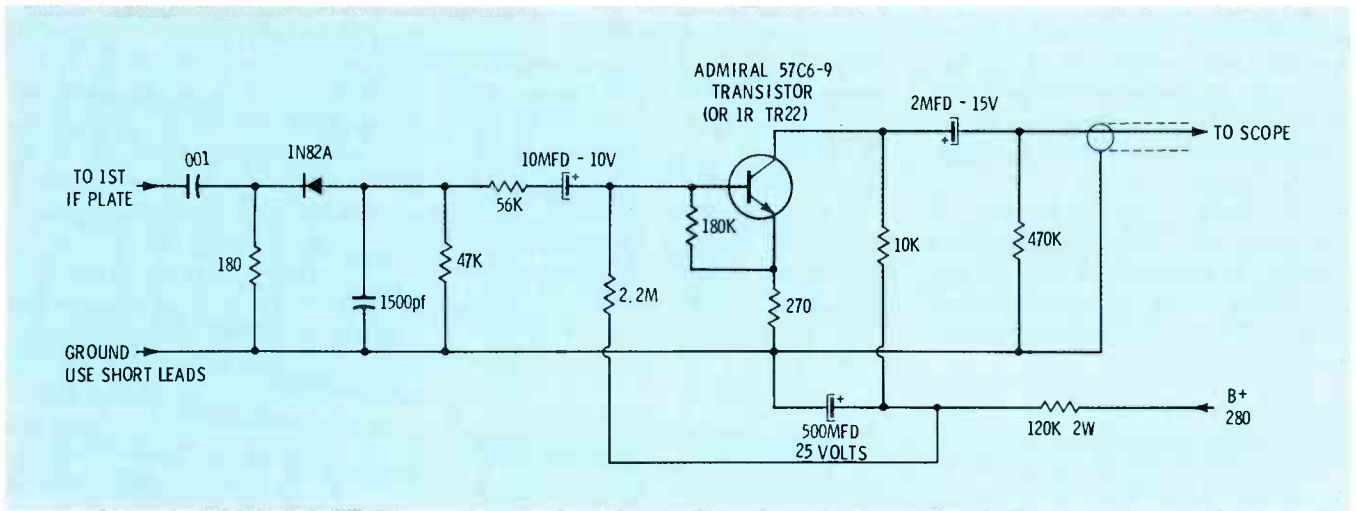
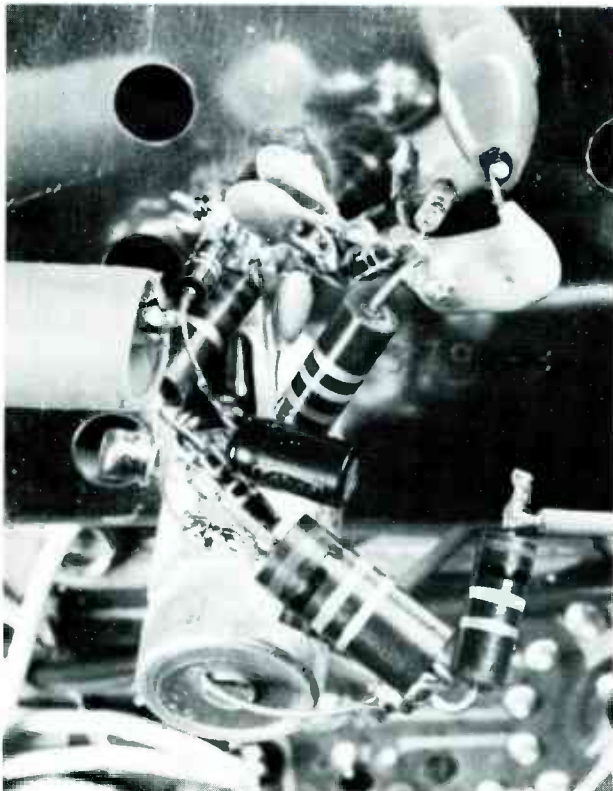

Fig. 6A Complete schematic of the Admiral "link-amplifier" circuit.
Fig. 6B Picture of the "link-amplifier".
3. If your scope does not have enough gain to produce a large waveform during step 2, you may need to build the "link amplifier" whose schematic appears in Fig. 6A. This is a combination load, detector and transistor amplifier suggested by Admiral. It gives a voltage gain of about 10 times. Note that voltage from any +250- to +300-volt source in the receiver can be used to supply the silicon transistor. Solder the ground of the link amplifier to the shield, and attach the capacitor by the insulated clip to the plate of V1. The circuit pictured in Fig. 6B was built hurriedly, and is not an example of beauty, but it operates correctly. Note that it uses short leads, especially the ones to the 180-ohm resistor and the .001-mfd capacitor.